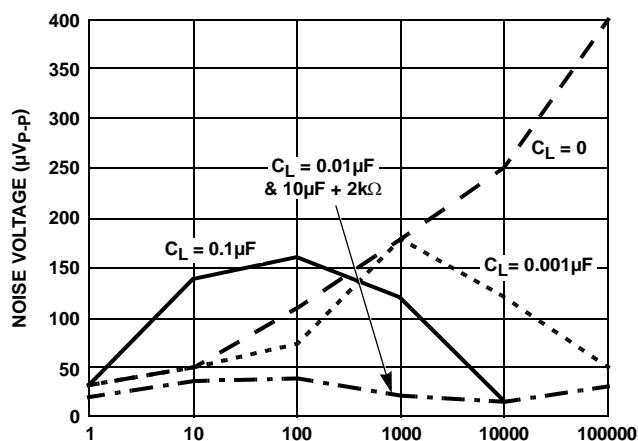
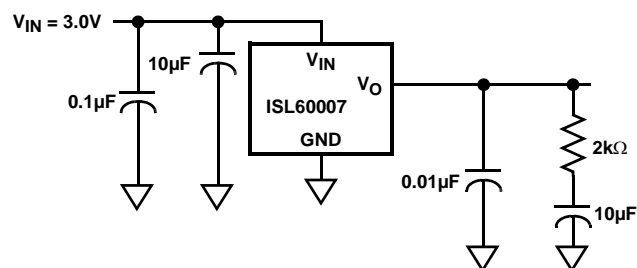

FIGURE 16. NOISE REDUCTION
FIGURE 17.
*Also see Figure 17 in Applications Information.
The output noise voltage in a 0.1Hz to 10Hz bandwidth is typically $30\mu\text{V}_{\text{P-P}}$. This is shown in the plot in the Typical Performance Curves. The noise measurement is made with a bandpass filter made of a 1 pole high-pass filter with a corner frequency at 0.1Hz and a 2-pole low-pass filter with a corner frequency at 12.6Hz to create a filter with a 9.9Hz bandwidth. Noise in the 10kHz to 1MHz bandwidth is approximately $400\mu\text{V}_{\text{P-P}}$ with no capacitance on the output, as shown in Figure 16. These noise measurements are made with a 2 decade bandpass filter made of a 1 pole high-pass filter with a corner frequency at 1/10 of the center frequency and 1-pole low-pass filter with a corner frequency at 10 times the center frequency. Figure 16 also shows the noise in the 10kHz to 1MHz band can be reduced to about $50\mu\text{V}_{\text{P-P}}$ using a $0.001\mu\text{F}$ capacitor on the output. Noise in the 1kHz to 100kHz band can be further reduced using a $0.1\mu\text{F}$ capacitor on the output, but noise in the 1Hz to 100Hz band increases due to instability of the very low power amplifier with a $0.1\mu\text{F}$ capacitance load. For load capacitances above $0.001\mu\text{F}$ the noise reduction network shown in Figure 17 is recommended. This network reduces noise significantly over the full bandwidth. As shown in Figure 16, noise is reduced to less than $40\mu\text{V}_{\text{P-P}}$ from 1Hz to 1MHz using this network with a $0.01\mu\text{F}$ capacitor and a $2\text{k}\Omega$ resistor in series with a $10\mu\text{F}$ capacitor.